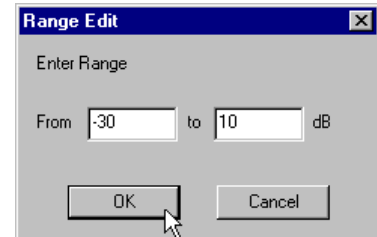

Figure 54 – Range Edit Dialog
2. The Range Edit dialog appears, as pictured to the right in figure 54.